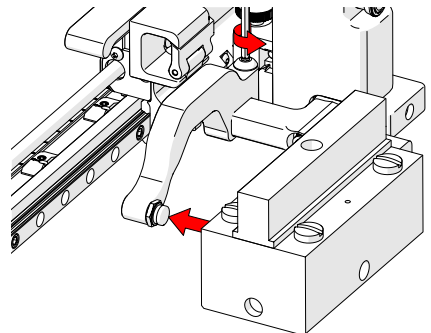

Fig. 38 - Adjust inner arm
4. Loosen the arm clamp screw (Fig. 38).
5. Place the wedge on the pivot button of the inner probe holder arm (Fig. 38).